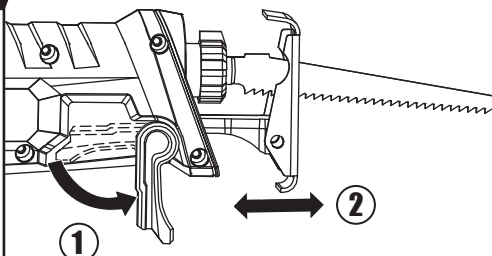

Fig. C1
2. ADJUST THE DEPTH OF CUT (See Fig. C1, C2)